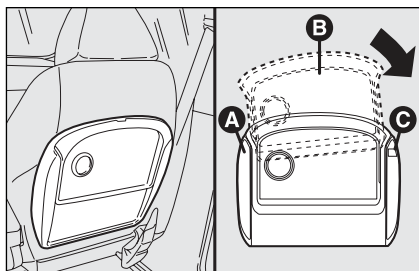

fig. 73
- ☐ fit the shelf **B**-fig. 73 so that the support fixed pin **A** is fitted inside the shelf left rail;